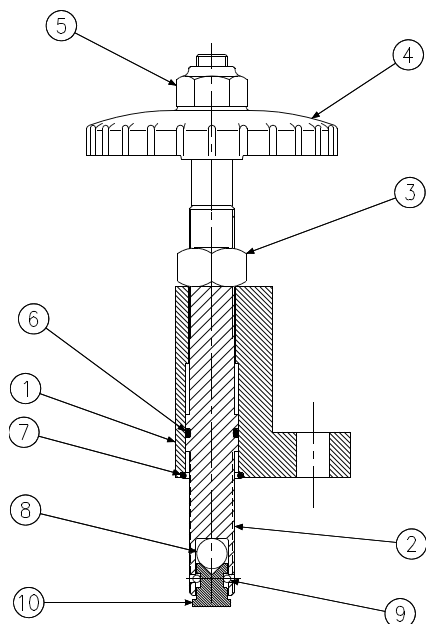

Figure 8
PARTS LIST FOR FIGURE 8
1. See Fig. 8. Remove the two screws holding the bracket (1) to the control cap.
3. Remove nut (5) and handwheel (4) from the stop screw (2).
4. Remove nut (3). Screw (2) may now be slipped through the bracket (1) to examine parts and to replace O-ring (6).
5. Seat (10) pivots and rotates on ball (8) and is retained by pressing two balls (9) into screw (2). Replace assembly if damaged.